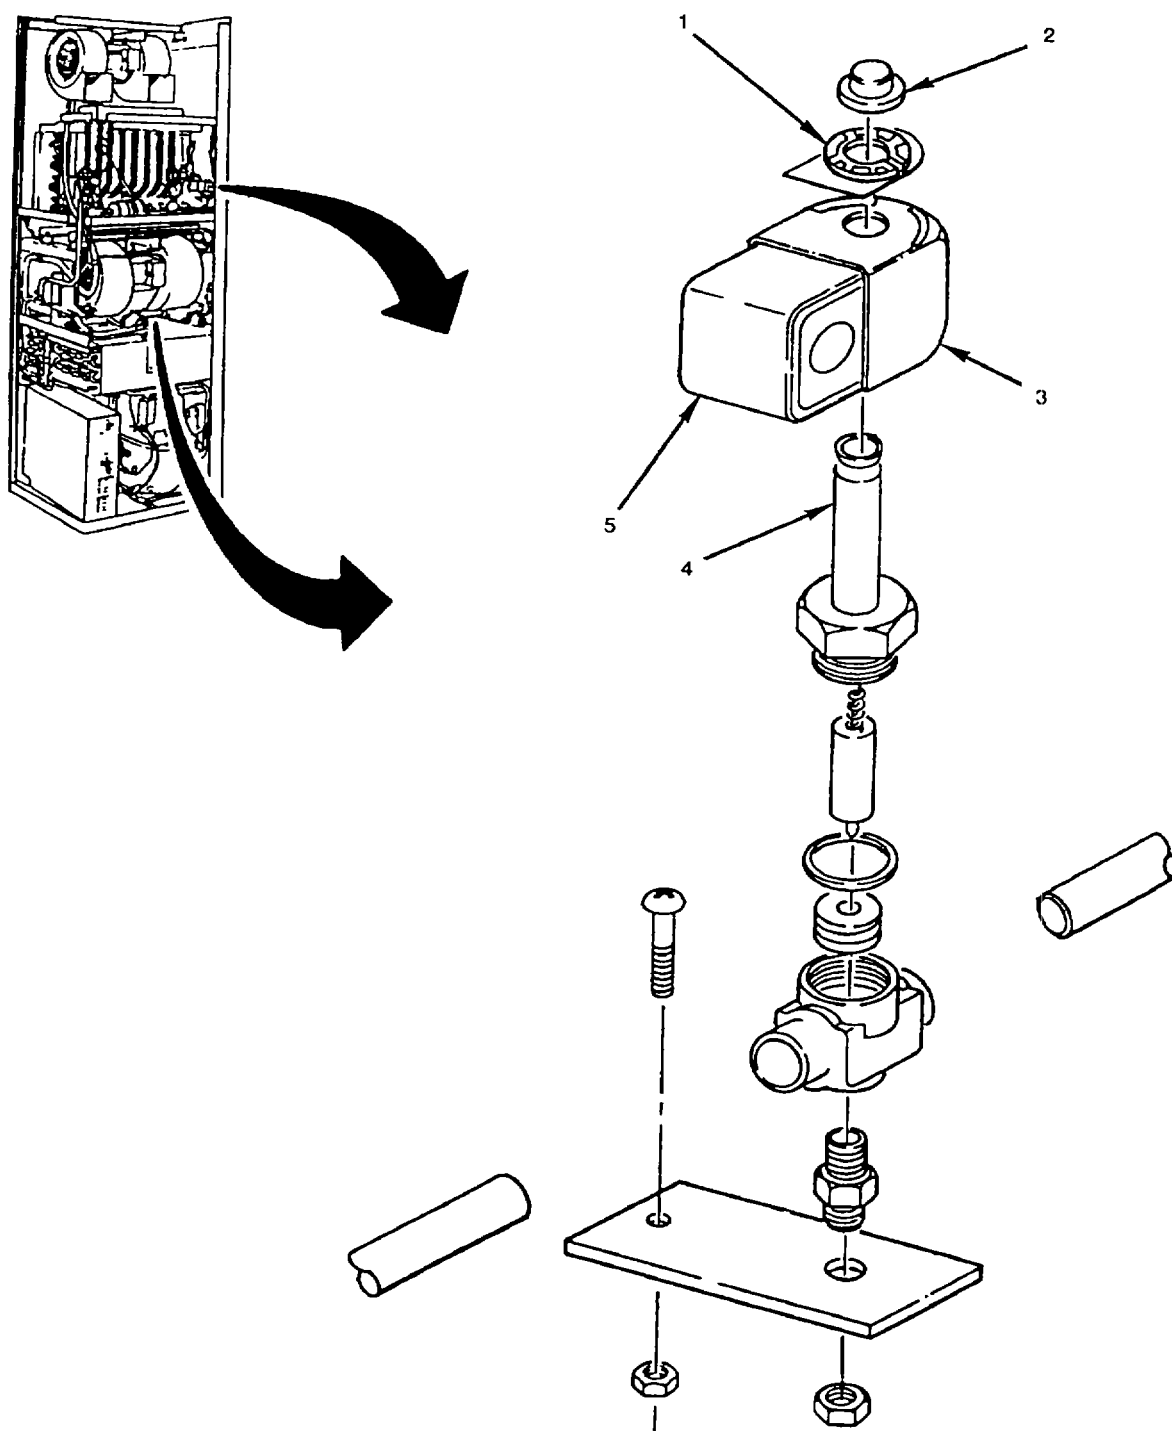

Figure 4-48. Solenoid Valves (L1 and L2) Coil
- (1) Disconnect air conditioner input power at source;
- (2) Remove return air filter (paragraph 4.26); and
- (3) Remove condenser fan section panel (paragraph 4.23).
- a. Check that leads are properly connected (see fig. 4-48 and fig. FO-2.).